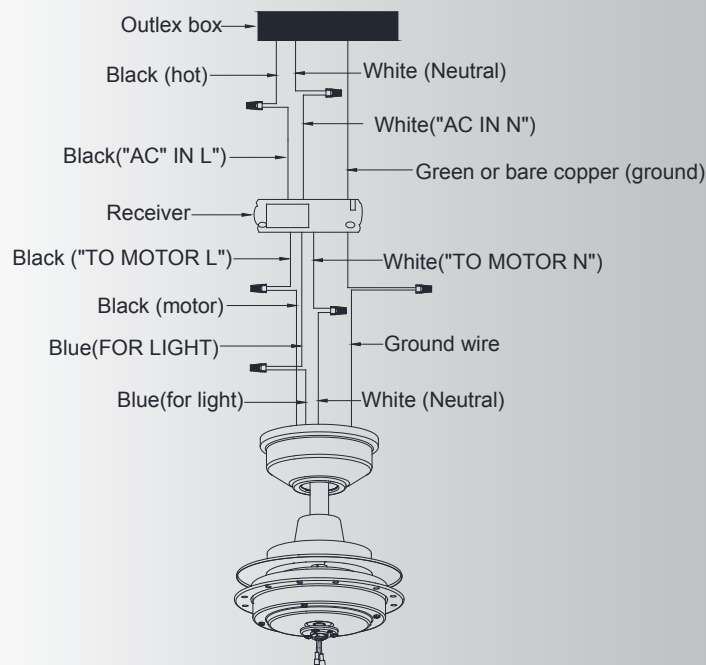

Fig. 14
**Step 2.** Motor to Receiver Electrical Connections: Connect the BLACK wire from the fan to BLACK wire marked "TO MOTOT L" from the receiver. Connect the WHITE wire from the fan to the WHITE wire marked "TO MOTOR N" from the receiver. Connect the BLUE wire from the fan to the BLUE wire marked "FOR BOTTOM LIGHT " from the receiver. Connect the ORANGE wire from the fan to the ORANGE wire marked "FOR UPPER LIGHT " from the receiver. Secure all the wire connections with the plastic wire nuts provided. ( Fig. 14)
**Step 3.** Remote Receiver to Outlet Box Electrical Connections: Connect the BLACK (hot) wire from the ceiling to the BLACK wire marked “AC in L” from the receiver . Connect the WHITE ( neutral ) wire from the ceiling to the WHITE wire marked “ AC in N” from the Receiver . Secure the wire connections with the plastic wire nuts provided . ( Fig. 14)
**Step 4.** If your outlet box has a ground wire ( green or bare copper ) connect it to the fan ground wires : otherwise connect the hanging bracket ground wire to the mounting bracket. Secure the wire connection with a plastic nut provided. After connecting the wires, spread them apart so that the green and white wires are on one side of the outlet box and black and blue wires are on the other side. ( Fig. 14)